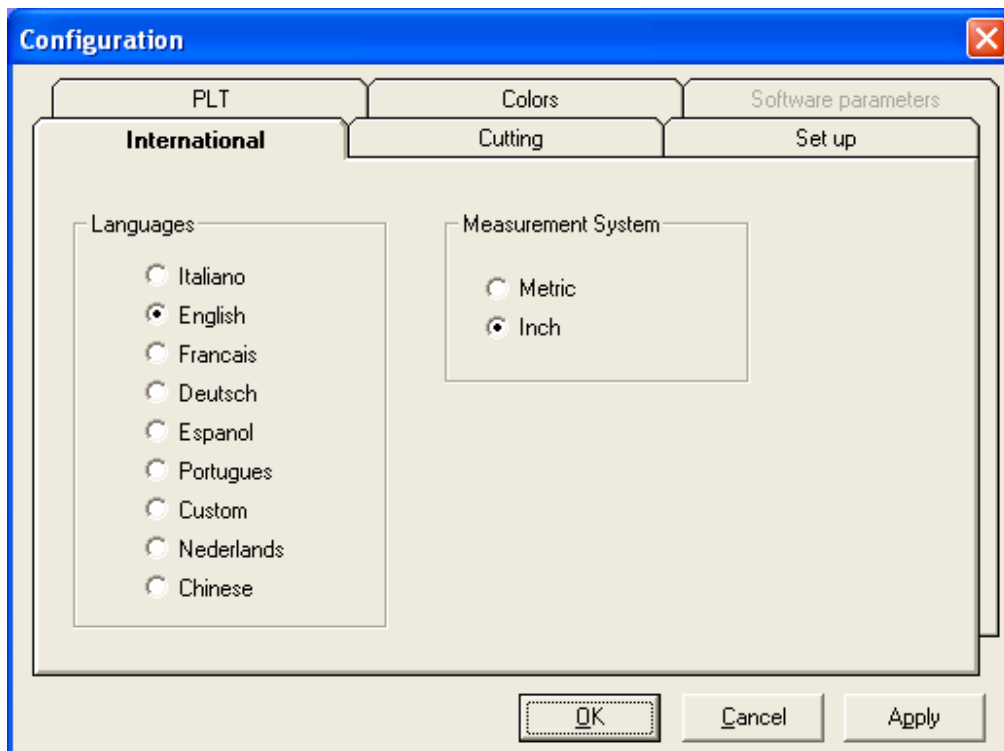

Figure 2.16
The Configuration options are organized into 6 tabs, as shown (Figure 2.16).
**International Tab: Select the Language and unit of measurement that you will be using the program in. “English” and “Inch” options will be selected for most North American users (Figure 2.16).**